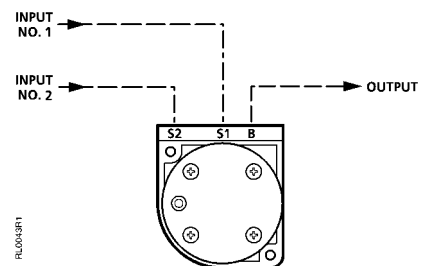

Figure 1. Piping Diagram.
Application The Highest Pressure Signal Selector is used in applications requiring a pneumatic output signal which is the higher of two input signals. See Figure 1 and Table 1. This is a low capacity device. For some applications a volume amplifying relay will be required.
- The selector can be mounted using either the tubing connecting the input and output fittings or the mounting bracket provided. See Figure 1 for piping instructions.